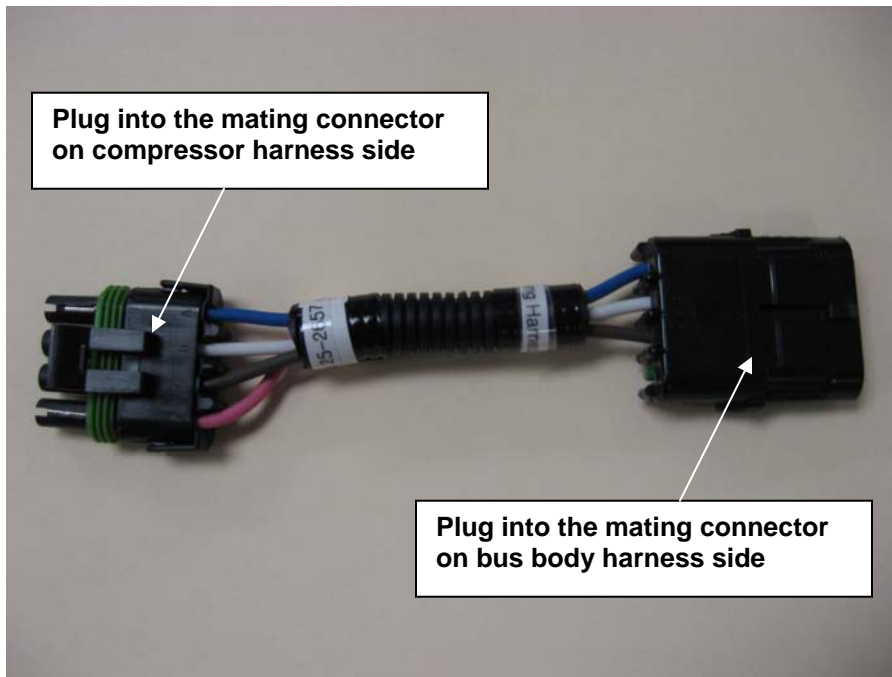

Figure 5
2. Plug the upgrade harness in (see figure 5).